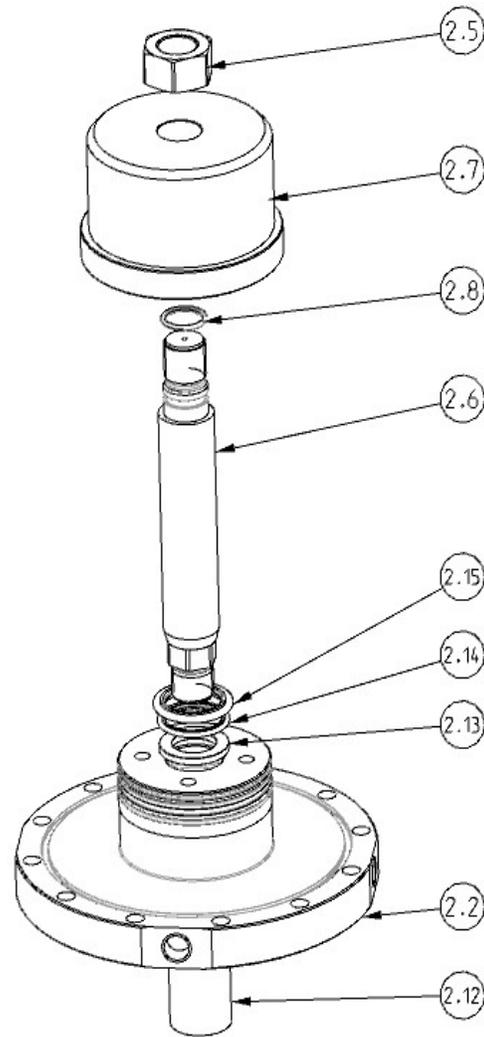

Fig. 6.3
3) *Rod seals replacement (fig. 6.3)*